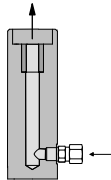

Fig. 3.8 Adjusting the oil level
- Push the hand lever down until the cylinder is filled up to the brim (Fig. 3.8).